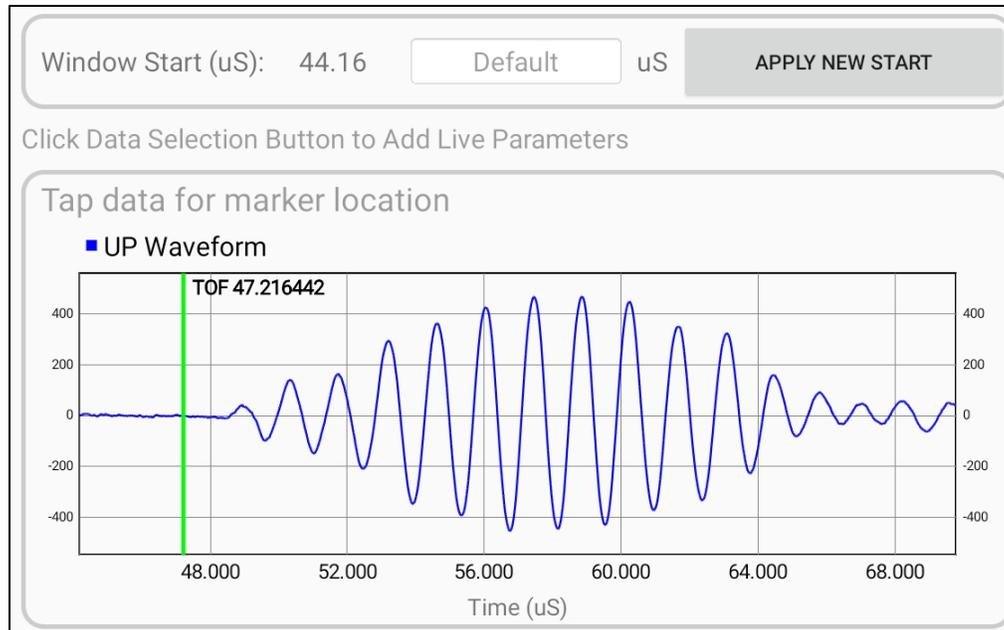

Figure 25: Window Start Example
- If the default window start value is being used, the entry box will display “Default” as shown in Figure 25.